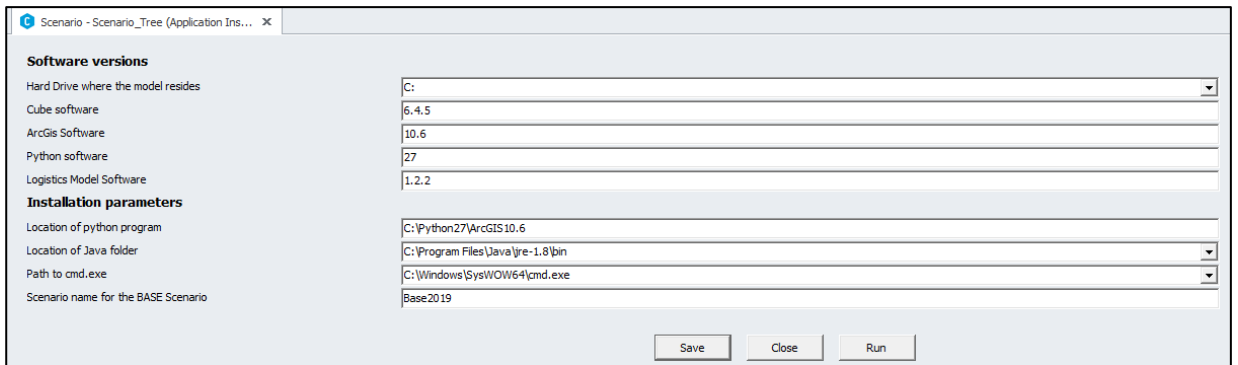

Figure 4 Example of catalog key values for the Installation application
- d) For the following catalog keys, change to its corresponding installed version if needed² (see Figure 4 for an example):